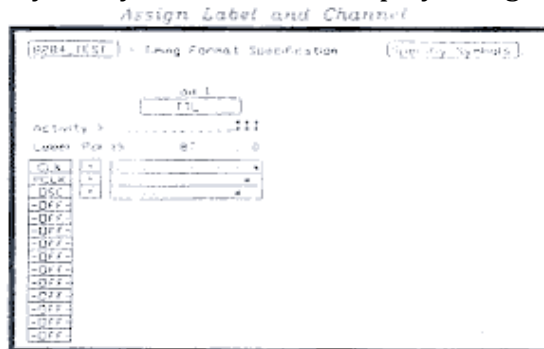

Fig. 1-8 Assign Label and channels
- Press **Format** key, and you will see the display of Fig. 1-8.